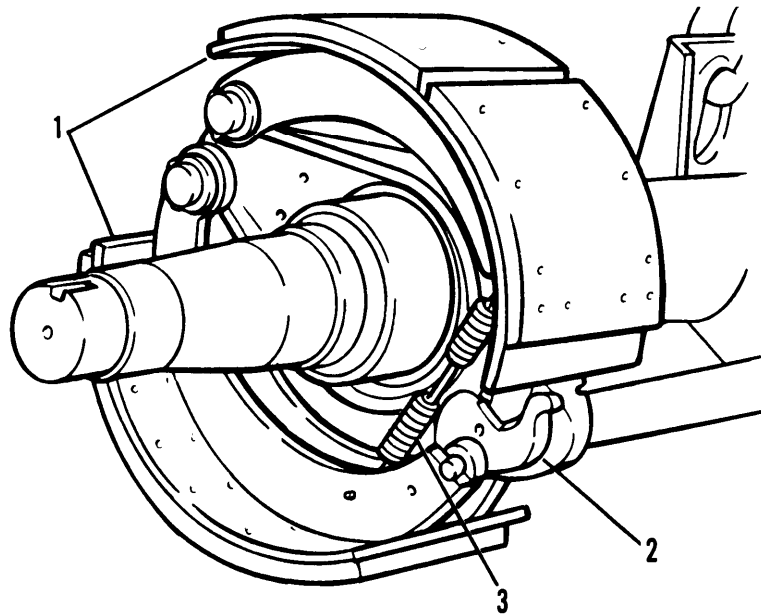

Figure 4-22. Internal Brakes
- (1) The internal brakes are located within the brake drums. Each internal brake has two brake shoes (1, fig. 4-22). The outer surfaces of the brake shoes are fitted with brake linings. Each shoe is anchored at one end on an anchor pin on which it pivots. The other end of each shoe is free to be pushed out or pulled.
- (2) An S-shaped cam (2) on the end of the camshaft is mounted between the free ends of the two brake shoes (1). Rotation of the cam (2) forces the shoes (1) out causing the brake linings to contact the drum.
- (3) A brake shoe tension spring (3), near the free ends of the brake shoes (1)~ retracts the brake shoes (1) from the drum and holds them in a retracted position until the brakes are applied.